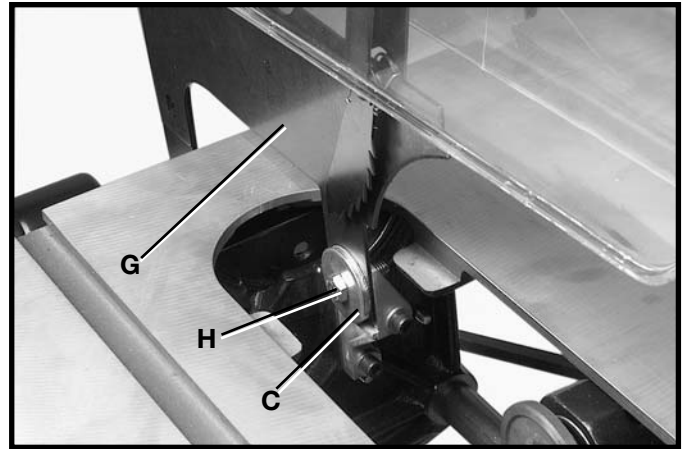

Fig. 30
7. Assemble the blade guard and splitter assembly (G) Fig. 30, between the large washer (C) and the splitter bracket and tighten screw (H) with wrench supplied.